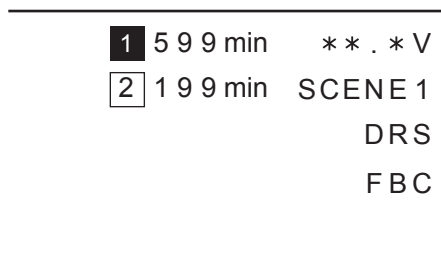

Fig. 1
- There is sufficient battery charge level. (Fig. 1)